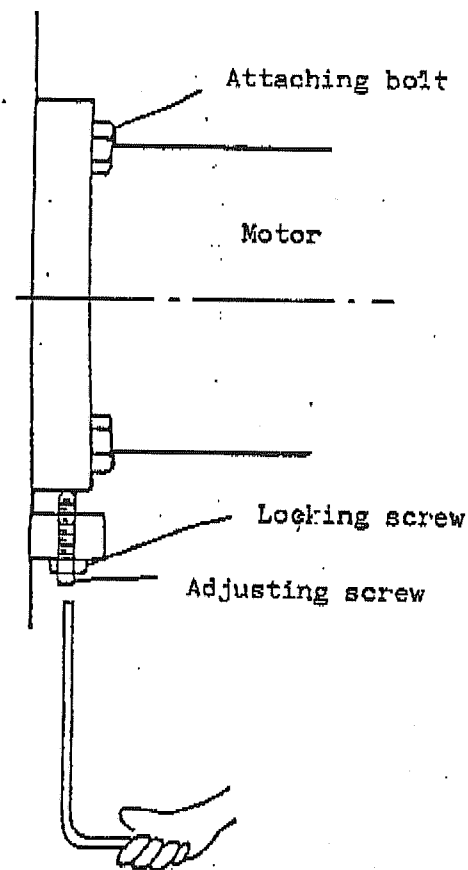

Fig 3
\* If abnormal sound is recognized, loosen the attaching bolt of Fig. 3 and slowly turn the adjusting screw clockwise, then it will become normal sound.
2. Lock the locking screw of Fig. 3 again, and securely fix the motor again.